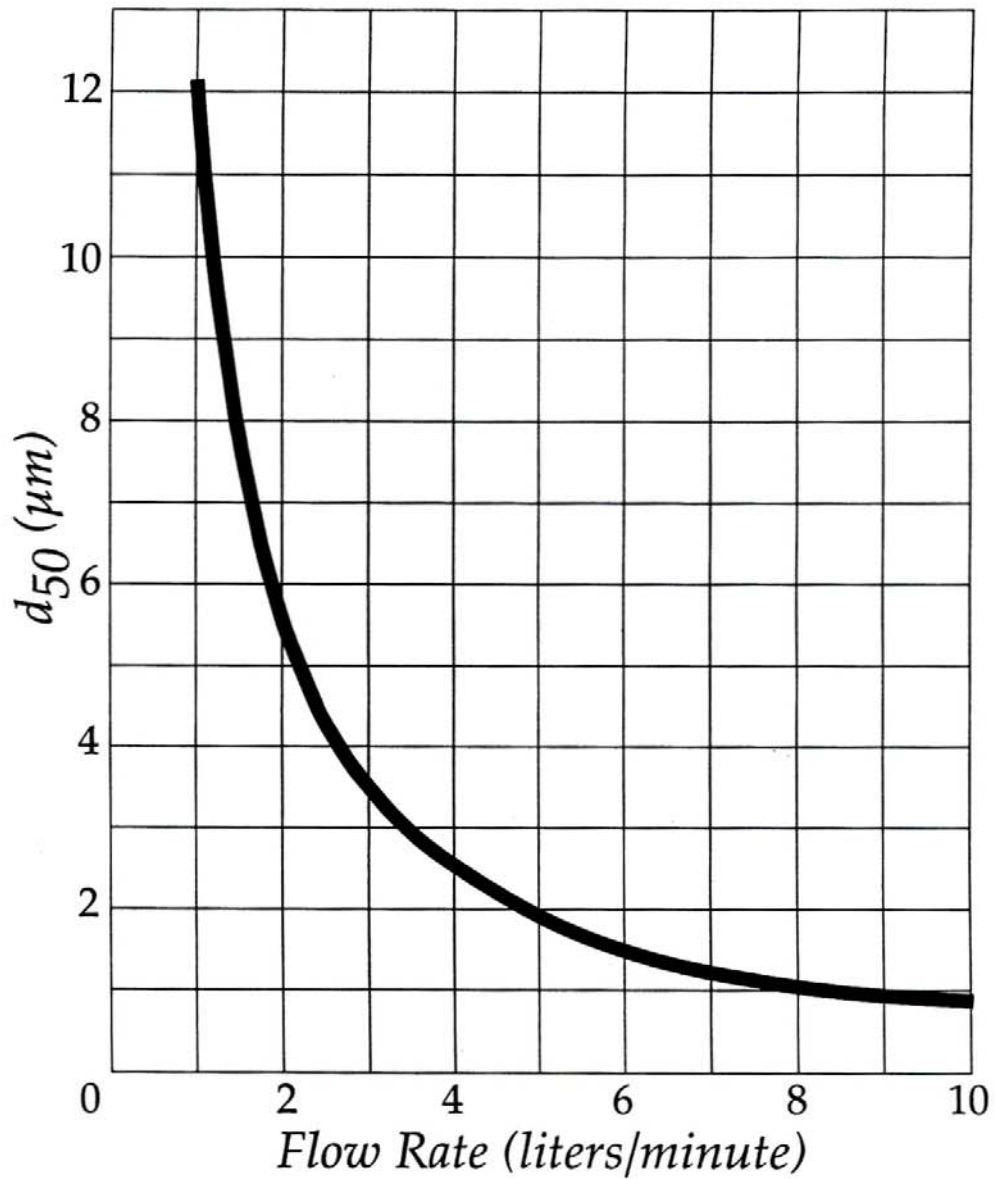

Figure 7. GK 2.05 Cyclone Cut Point (d_{50}) as a Function of Flow Rate
The *pDR-1200* can be used to monitor a specific particle size fraction below a selectable cut off equivalent aerodynamic diameter. The particle size cut point can be selected by adjustment of the sampling flow rate. The higher the flow rate through the cyclone the smaller the cut off particle diameter. Figure 7 is a graph showing the dependence of the particle cut off size in micrometers as a function of the sampling flow rate in liters per minute. The cut off size is the particle aerodynamic diameter at which the collection efficiency of the cyclone is 50%, or conversely, the size at which the cyclone transmission is 50%. For example, to obtain a particle size cut off of 2.5 μm (i.e., PM_{2.5}), the required sampling flow rate is 4 liters/minute. At that flow rate only particles smaller than (approximately) 2.5 μm are allowed to pass into the *pDR-1200* sensing stage, to be monitored and then to be collected on the filter.
As can be seen on Fig. 7, the lowest particle size cut for the GK 2.05 cyclone included with the *pDR-1200* is about 1 μm , and the largest is about 12 μm . For particle size classification outside this range, consult with the factory.
One simple procedure to determine the median particle size is as follows (please refer to the graph of Fig. 7):
- After an elapsed time (ET) of about one minute, read and note TWA concentration
- Enter the final flow rate for which the TWA value is one-half of the initial value into the graph of Fig. 7 and read the corresponding D50 particle size in micrometers. This represents the mass median particle diameter of the aerosol.
For example, if the TWA value without the cyclone was 0.8 mg/m^3 , and the flow rate (with the cyclone attached) required to reduce the TWA to 0.4 mg/m^3 is 2 liters/minute, the mass median particle size (as obtained from the curve of Fig. 7) is approximately $5.5 \text{ }\mu\text{m}$.